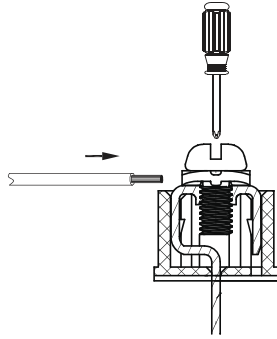

Fig. 28 —Connecting Communication Wire to Outdoor Unit Communication Terminal
- Use a suitable screwdriver to fix the communication wire on the outdoor unit communication terminal as shown in Fig. 28.